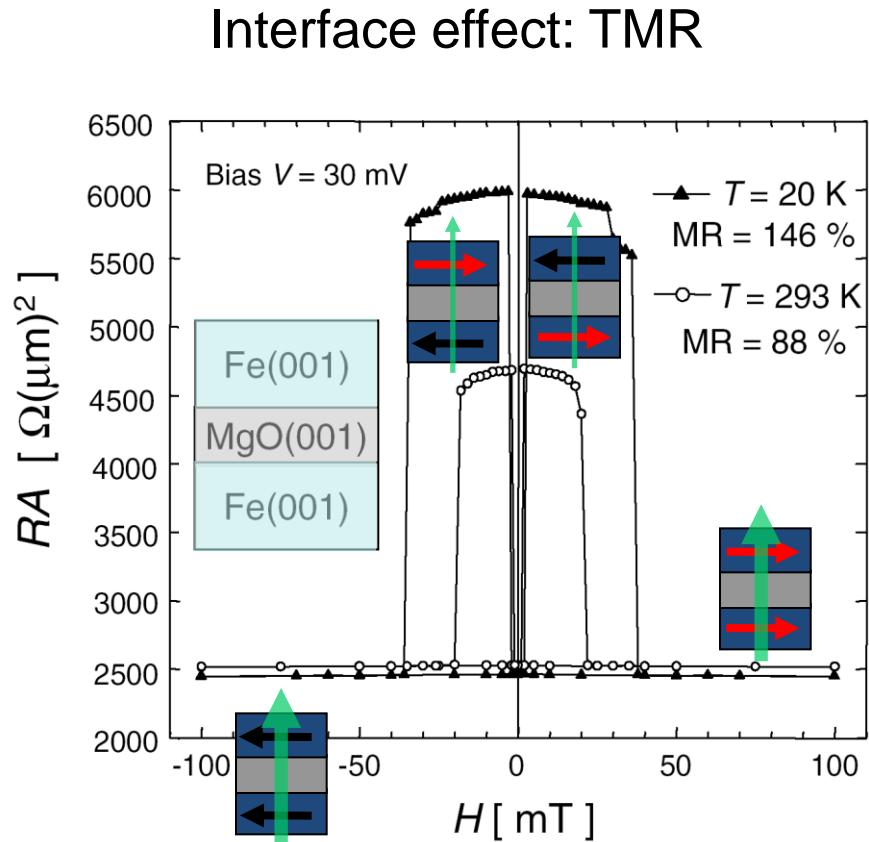

Fig. 3. Magnetoresistance curves for Fe(001)/MgO(001)(20 Å)/Fe(001) MTJ at $T = 293$ and 20 K . The MR ratios were 88% and 146%, respectively.
FIG. 3. The ratio of orbital versus spin moment M_L/M_S as a function of film thickness d . The open circles give the theory taken from Table I. The full squares show the experiment. The solid line is a fit using Eq. (1) with the parameters given in the last row of Table I. Note that the fit was performed only for $d \geq 3$ ML, corresponding to well-defined, epitaxial growth. The surface, interface, and bulk contributions used in Eq. (1) are schematically shown in the inset.